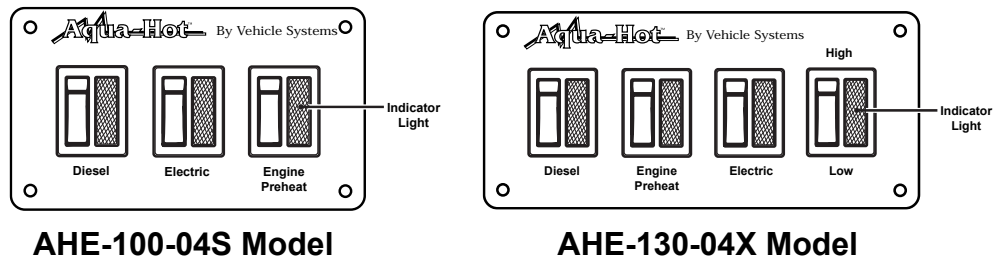

Figure 3
|                                 | Figure 3: Aqua-Hot Interior Switch Panel .....                           | 6           |
Turn the **Diesel** switch **ON**; reference **Figure 3**. This procedure will activate the Diesel-Burner and the indicator light located on the Diesel switch. Allow 10-20 minutes for the Aqua-Hot System to reach operating temperature. Please note that the Diesel-Burner is the **primary heat source** for heating both the interior and the domestic hot water (such as when cool ambient temperatures exist and/or when there is a high demand for domestic hot water).
Turn the **Electric** switch **ON**; reference **Figure 3**. This procedure will activate the 120 VAC Electric Heating Element and the indicator light located on the Electric switch. Allow 1-2 hours for the Aqua-Hot System to reach operating temperature. Please note that the Electric Heating Element is a **secondary heat source** for heating both the interior and the domestic hot water during low heating demand situations (such as when moderate ambient temperatures exist and/or when there is a low demand for domestic hot water).
Turn the **Electric** switch **ON** in conjunction with the High / Low switch placed in the **LOW** position; reference **Figure 3**. This procedure will activate one of the two 120 VAC Electric Heating Elements and the indicator lights located on both the Electric and High / Low switches. Allow 1-2 hours for the Aqua-Hot System to reach operating temperature.
Turn the **Electric** switch **ON** in conjunction with the High / Low switch placed in the **HIGH** position; reference **Figure 3**. This procedure will activate both of the 120 VAC Electric Heating Elements and the indicator lights located on both the Electric and High / Low switches. Allow 0.5-1 hour for the Aqua-Hot System to reach operating temperature.
- A.** Turn the Aqua-Hot’s **Engine Preheat** switch **ON**; reference **Figure 3**. This procedure will activate the Engine Preheat Circulation Pump and circulate the engine’s coolant through the Engine Preheat System. This feature will adequately warm the engine for easy start-ups on cool mornings.
Reference Figure 3 for all numbers indicated inside parentheses. (e.g., #8).